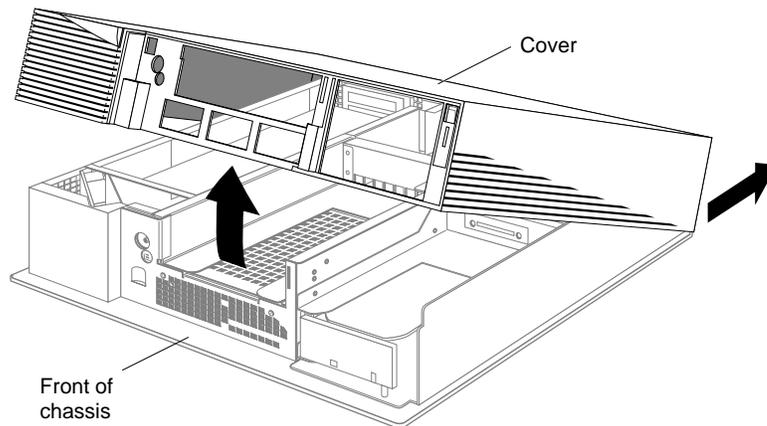

Figure 1-6 Removing the Cover
- Pull up on the cover and rotate it back and away from the chassis. See Figure 1-6.